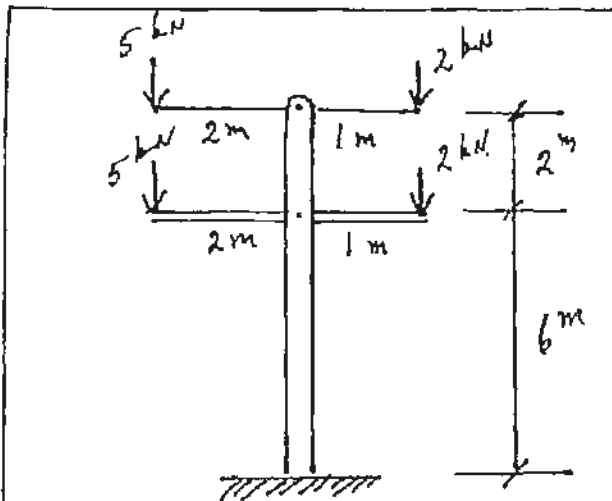

FIGURE A1
- A1. An 8-m steel hollow post of G40.21, 350W class H, 219.1 mm OD and thickness of 7.95 mm, supports two rows of power cables, Figure A1. The post is free standing at the top and fixed at the base. Calculate the maximum factored load, P_F , that the post can carry.